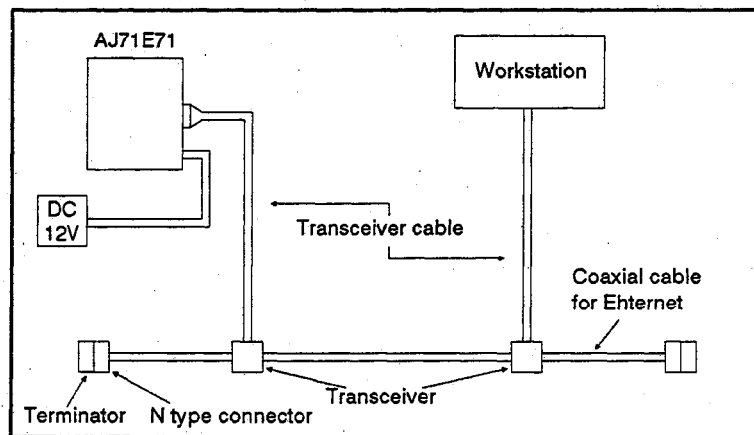

Fig. 2.3 Network System Configuration Example
- (1) Users must prepare the equipment shown in Figure 2.3 which is necessary to construct a 10BASE5 (Ethernet) network.